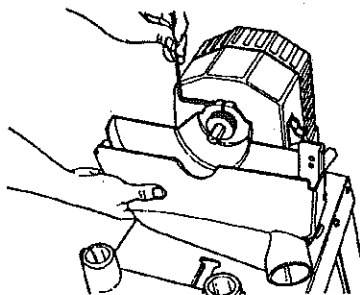

Fig.H-3
5. Mount the Disc Sander Dust Chute (optional) to the Power Station. See Fig.H-3. Adjust the chute as far open as possible, and lock it in position.